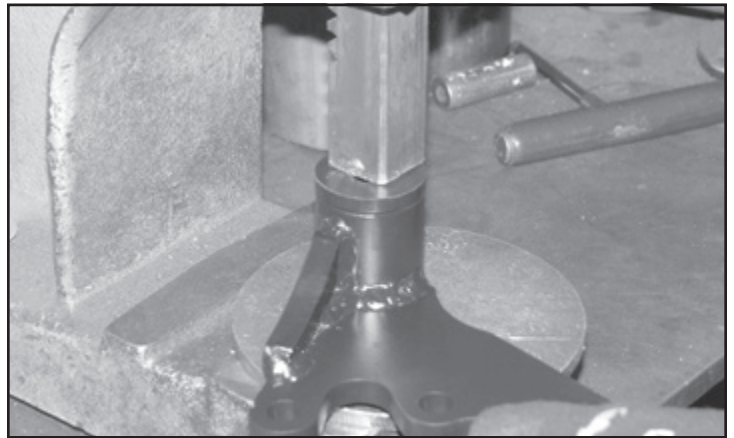

FIGURE 25 - STEP 26
26. Locate the center differential bracket (FT30564). Install two of the Fabtech (FT1020) bushings and one sleeve (FT181) into the barrel on the differential bracket. **SEE FIGURE 25**